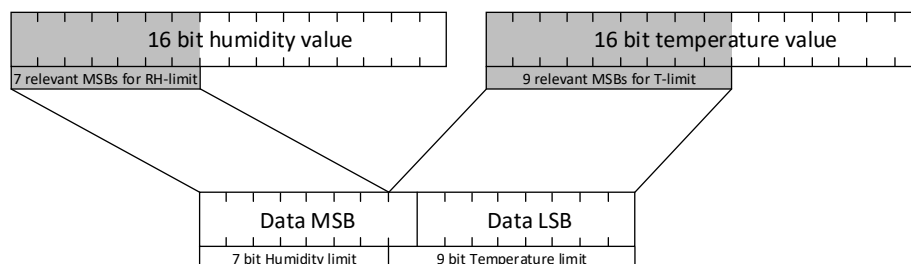

Figure 6.2 Relevant Bits for the limits
The sensor stores the limit information in a simplified data format. The standard data format width of NSHT30 acquisition data is 16 bits. However, in order to judge whether the limit value is exceeded, only the most significant bit (MSB) is used to determine whether the Alert setting conditions are met (where the humidity is 7 bits and the temperature is 9 bits), as shown in Figure 6.2.
As shown in Figure 6.2, the reduced data format is given.
5. Combine the reduced values (step 3 and 4) according to Figure 6.2